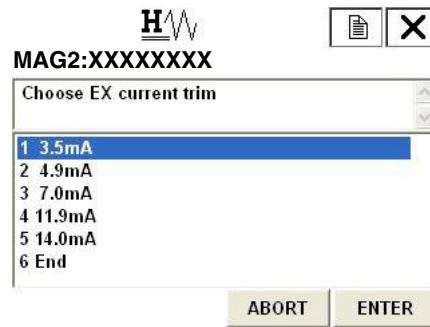

Figure 126.
2. Once the display as shown in Figure 126 appears, move the arrow key up or down to select an excitation current to adjust, and then press F4 (ENTER). This time, select 3.5 mA.